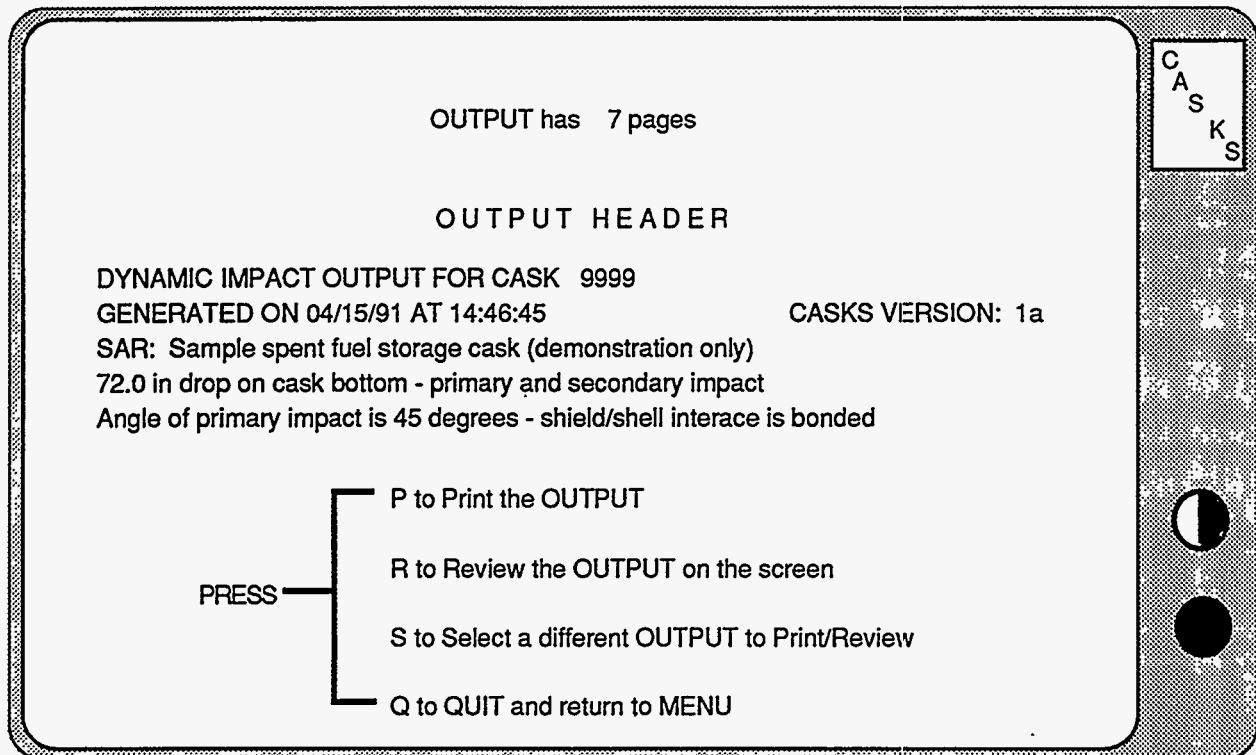

Figure 6-3. Output Summary Screen
- (3) Use the keypad up or down arrow keys to highlight the desired case. Press **S** to select the indicated solution to print or review. After the output is selected, **CASKS** displays an Output Summary Screen indicating the number of pages in the output, if abbreviated output is available, and the output header (Figure 6-3).